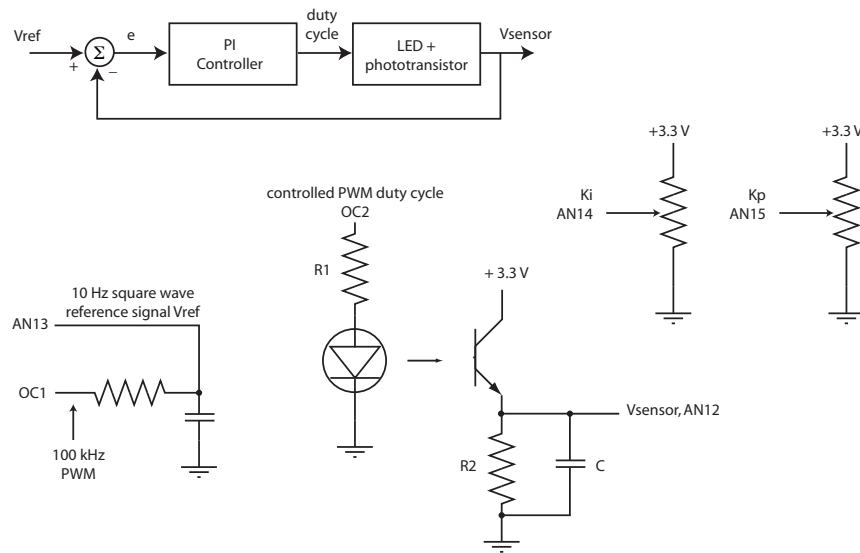
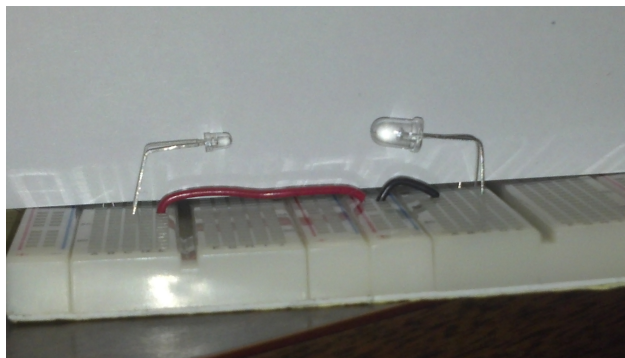

Figure 2: The circuit and control loop you will implement.
Figure 3: A picture of the phototransistor (left) and LED (right). A sheet of paper was added to make the pair more visible in the picture.
1. Wire terminals 1 and 3 of a potentiometer to 3.3 V and ground. Connect terminal 2, the output from the wiper, to pin AN15 on the PIC32. This will serve as our eventual input for K_p (see Figure 2).
find pictures of these parts and their datasheets on the What is in the NU32 Kit wiki page. In your circuit, use $R1 = 100\ \Omega$, $C = 0.1\ \mu\text{F}$ ³, $R2 = 10\ \text{k}\Omega$ (see Figure 2). There is nothing to hand in for this section.
1. Wire the circuit shown in Fig. 2 for the LED and phototransistor. For the LED, the *cathode is the shorter lead*⁴. For the phototransistor, the *shorter lead is the collector*. From a practical wiring perspective (Figure 3), the LED and the phototransistor should be placed about 1.5 to 2 inches apart (we counted 16 holes separating the two in our breadboard). They should both be bent to point “towards” each other.
3. Wire the output of the phototransistor circuit (V_{sensor} in Figure 2) to AN12.